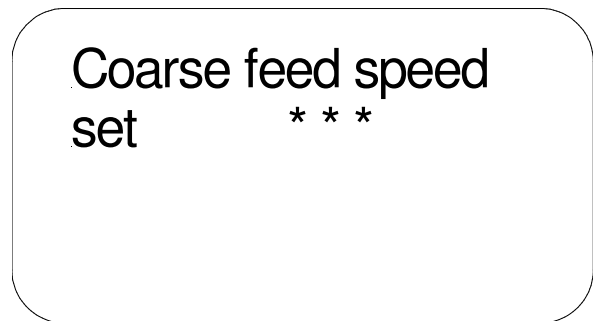

Fig. 33
- Now select the desired value. Only one possible value is shown on the display. The three different speed settings are shown by one, two or three stars (fig. 33).